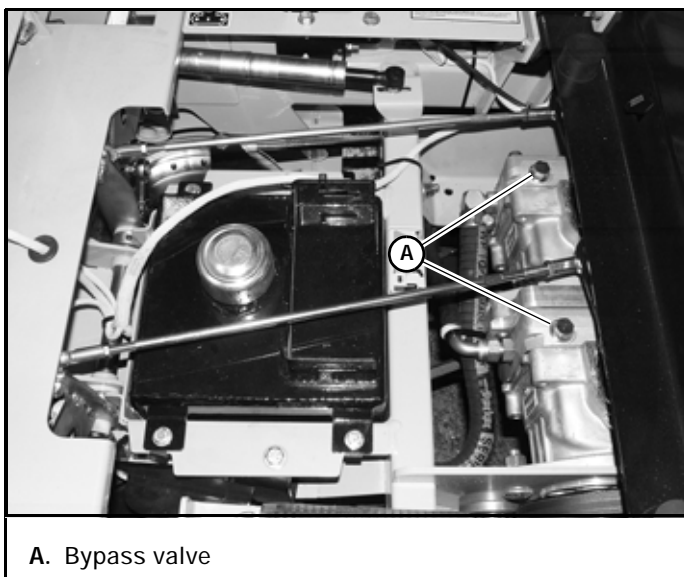

Figure 4-11
5. Open the hydraulic pump's bypass valve, on the side that is being adjusted, by turning the bypass valve counter clockwise one-half to one revolution. Figure 4-11
9. Close the hydraulic pump's bypass valve. Figure 4-11